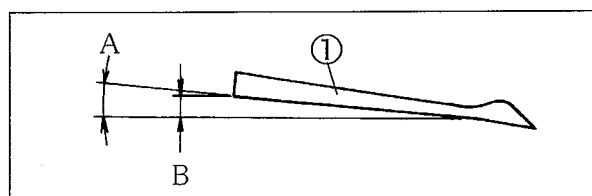

Fig. 6-21
Make adjustment by loosening the screw② to make the height difference between the rear and the tip of the lower looper to value B in Table 12. (Fig. 6-21)